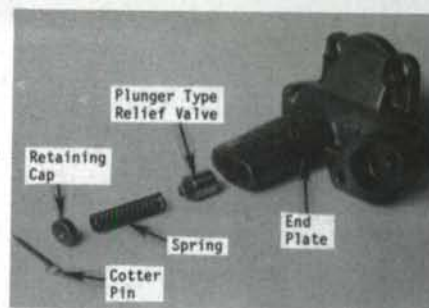

Fig. 83—Oil pump relief valve is located in the pump end plate.
**71. RELIEF VALVE.** The plunger type oil pressure relief valve (Fig. 83) is located in the oil pump body. The relief valve is set to open at 345-445 kPa (50-65 psi). All components of relief valve are renewable.